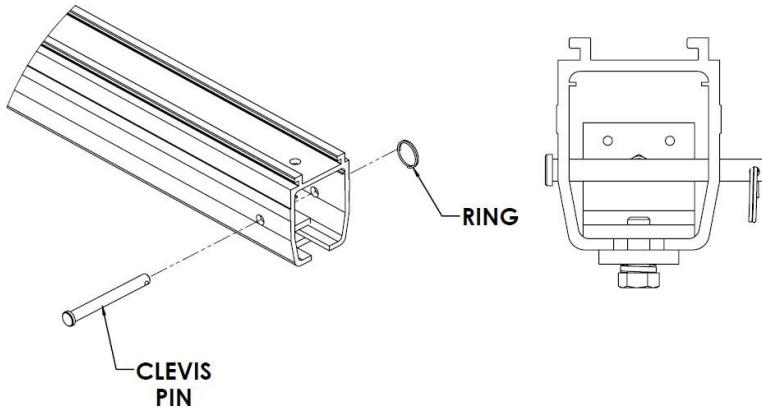

Figure 26: **Clevis Pin and Ring Installed**
- Make sure that the endstop clevis pins and rings are installed behind all endstops as shown in Figure 26.